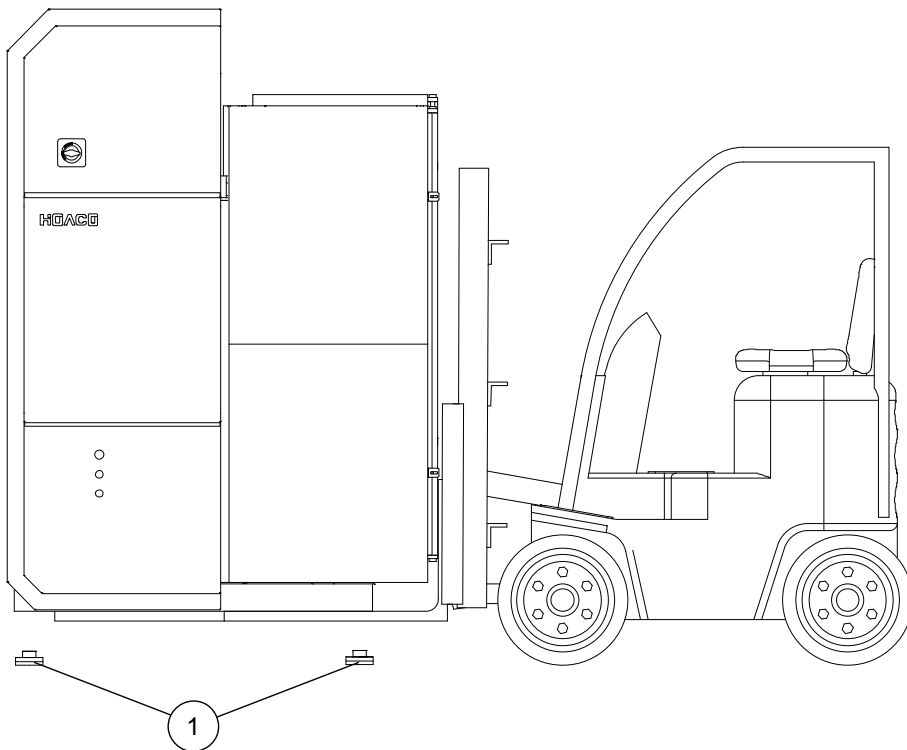

Figure 5-2 Transport the machine
Step2: Refer to the layout drawing to transport the machine to the target position with a forklift, as shown in Figure 5-2.